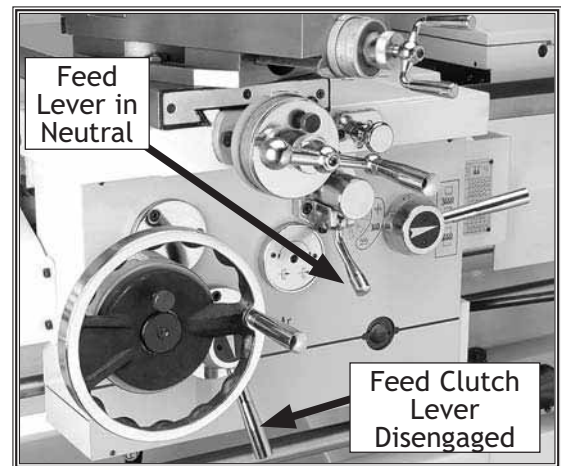

Figure 59. Apron control levers.
5. Move the feed lever to the neutral or central position shown in **Figure 59** to disengage the cross slide and longitudinal feed.
6. Disengage the feed clutch lever as shown in **Figure 59**. (This clutch will not disengage the apron during threading operations).